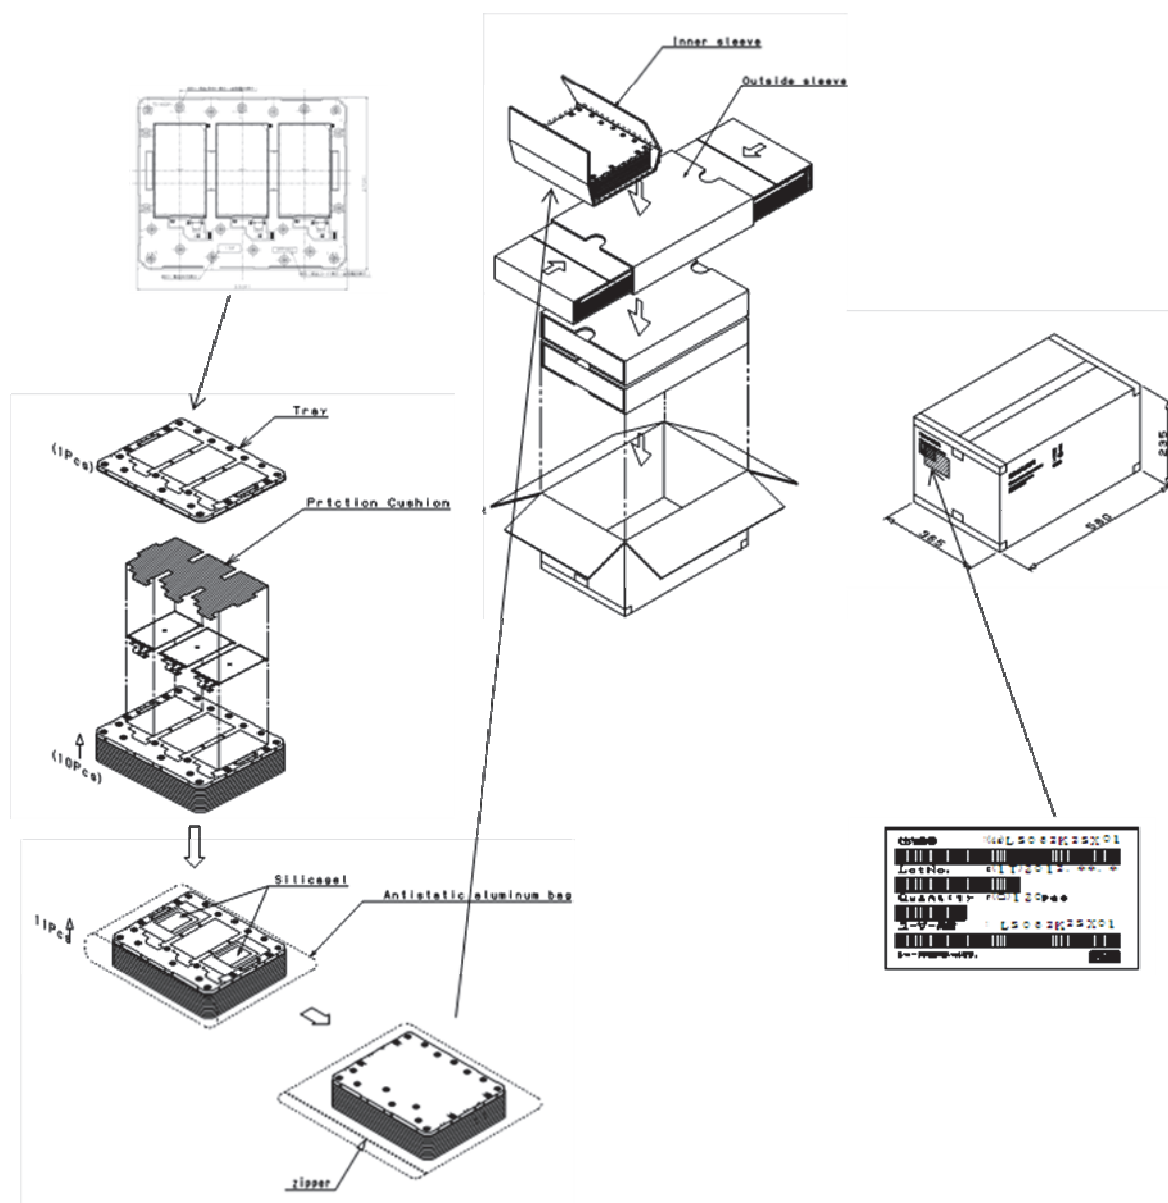

Fig.11 Packaging style
- 2) Packaging style : Fig. 11